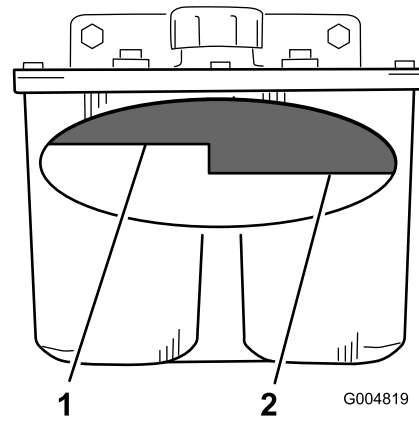

Figure 72
2. Clean the area around filler neck of hydraulic tank (Figure 72).
3. Remove the cap from the filler neck. Look inside to check if there is fluid in the reservoir (Figure 72).
**Note:** The fluid level should be to the top of the hot level of the baffle, when the fluid is hot (Figure 72).